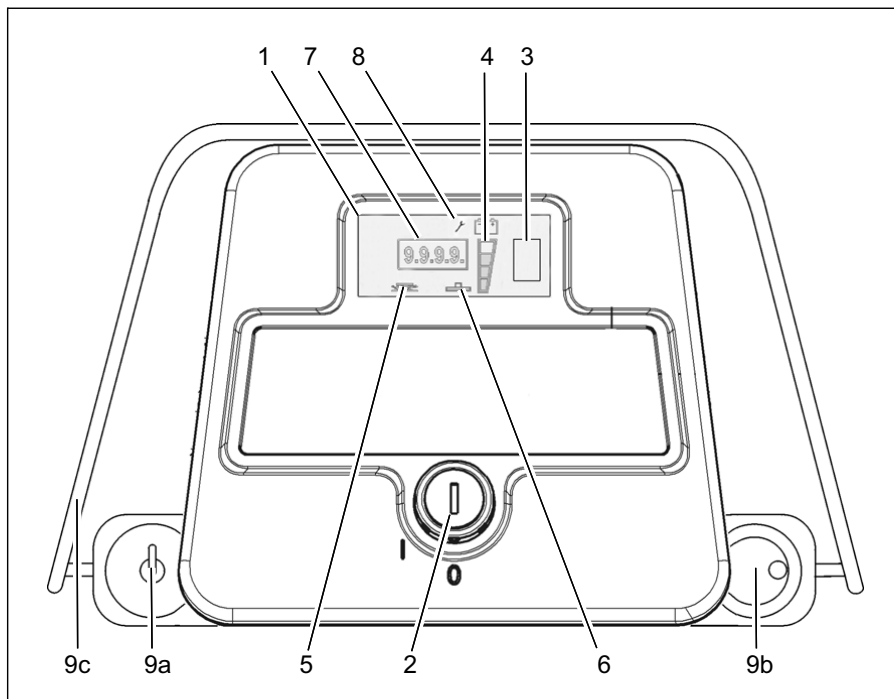

Fig.4
5. Use speed control knob (Fig.4/9b) to adjust work speed. Use the direction switch (Fig.4/9a) to select forward or reverse. Pull the bail handle (Fig.4/9c) to start moving.
### Display (Fig. 4/1)
### Battery charge indication (Fig. 4/3)
### LDS indicator (Fig. 4/4)
### Symbol brush drive (Fig. 4/5)
### Symbol vacuum motor (Fig. 4/6)
### Hourmeter (Fig. 4/7)
### Symbol service indicator (Fig. 4/8)
### **Drive direction control with speed control knob and bail handle (Fig. 4/9)**